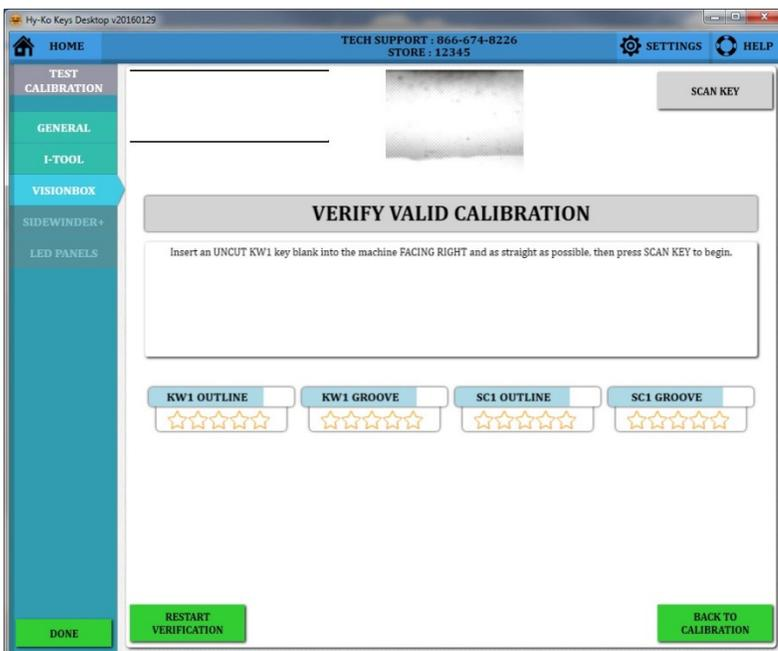

fig. 20
- Remove the Camera Calibration Tool from the Vision Box (see fig. 20).